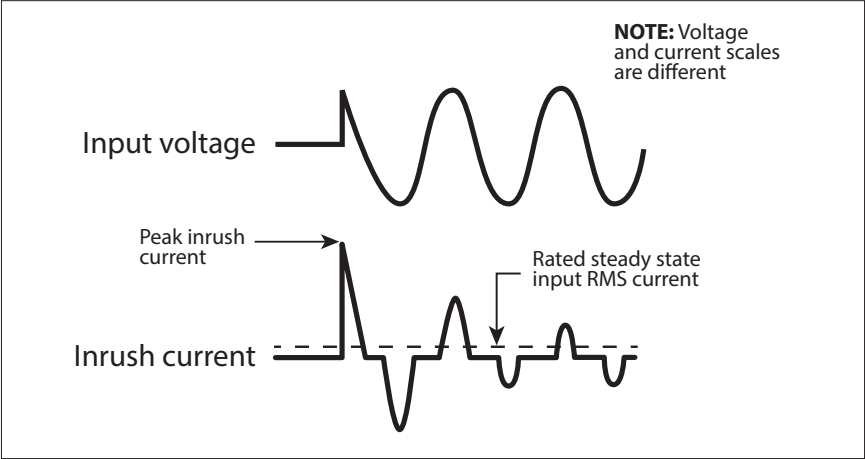

Fig 4.1: Inrush current in an SMPS
- **AC to DC Switched Mode Power Supplies (SMPS)**: This type of power supply is used as stand-alone power supply or as front end in all electronic devices powered from Utility / Grid e.g. in audio/video/ computing devices and battery chargers (*Please see Section 4 for more details on SMPS*). When this power supply is switched ON, its internal input side capacitors start charging resulting in very high surge of Inrush Current for a few milliseconds (*Please see Fig 4.1*). This surge of inrush current / power may reach up to 15 times the Continuous Maximum Running Power Rating. The surge of inrush current / power will, however, be limited by the Surge Power Rating of the AC source.
Switch Mode Power Supplies (*SMPS*) are extensively used to convert the incoming AC power into various voltages like 3.3V, 5V, 12V, 24V etc. that are used to power various devices and circuits used in electronic equipment like battery chargers, computers, audio and video devices, radios etc. SMPS use large capacitors in their input section for filtration. When the power supply is first turned on, there is a very large inrush current drawn by the power supply as the input capacitors are charged (*The capacitors act almost like a short circuit at the instant the power is turned on*). The inrush current at turn-on is several to tens of times larger than the rated RMS input current and lasts for a few milliseconds. An example of the input voltage versus input current waveforms is given in Fig. 4.1. It will be seen that the initial input current pulse just after turn-on is > 15 times larger than the steady state RMS current. The inrush dissipates in around 2 or 3 cycles i.e. in around 33 to 50 milliseconds for 60 Hz sine wave.